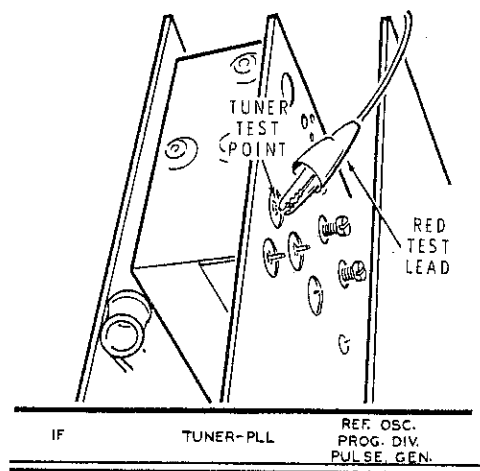

Figure 1-8
- (✓) Refer to Figure 1-8 and connect the red test lead to the tuner test point. Be sure the test lead does not touch any of the surrounding circuit board foil. The black test lead should still be connected to the chassis.